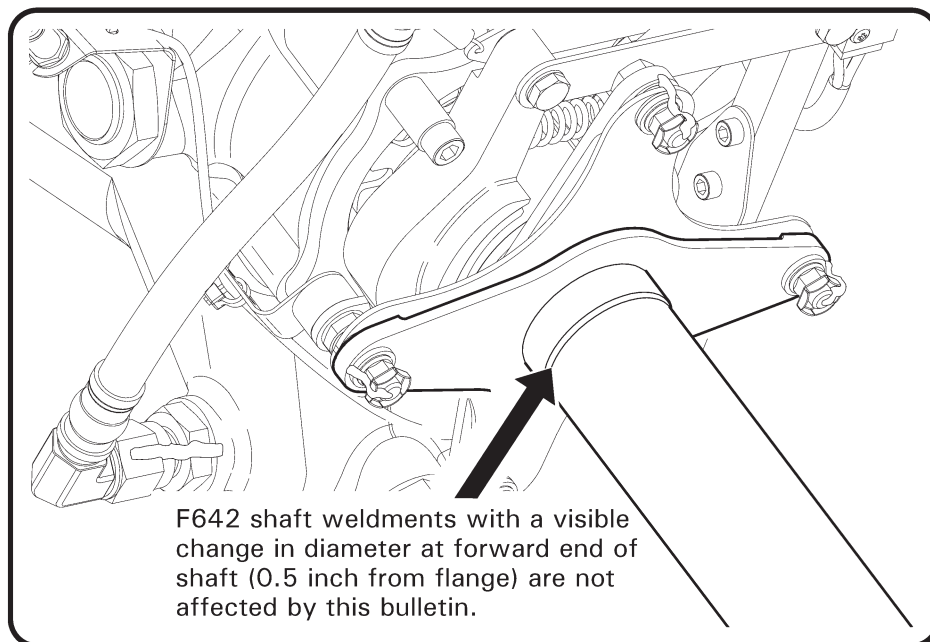
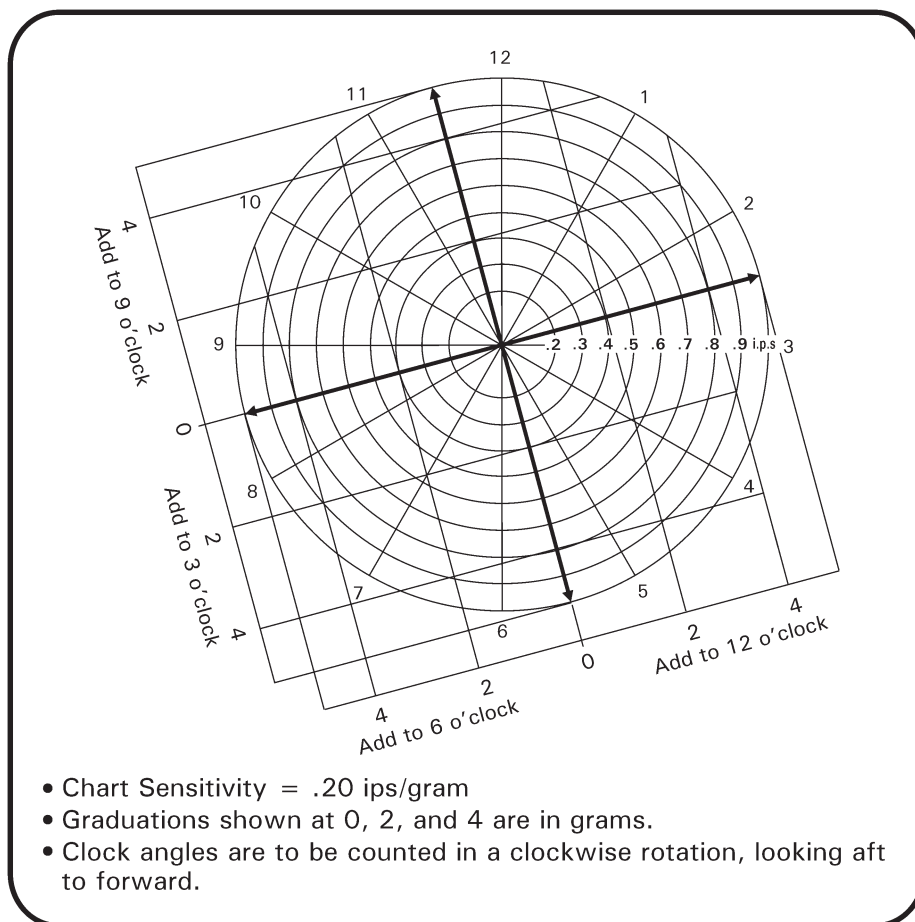

FIGURE 1
FIGURE 2
1. Refer to Figure 1. Visually inspect forward end of installed F642 shaft weldment for a visible change in diameter. Shafts with a change in diameter at location shown are revision D or subsequent and therefore are not affected by this bulletin; no further action is required.
2. If installed shaft does not have a change in diameter at location shown, remove shaft per R66 Maintenance Manual (MM) § 63-10, order one R9535 kit from RHC Customer Service, and install kit per MM § 63-10. (For kits which contain F642-7 shaft, use NAS6604-5 bolts to attach shaft to flex plates.)
3. Balance shaft per MM § 18-70 in conjunction with chart in Figure 2.